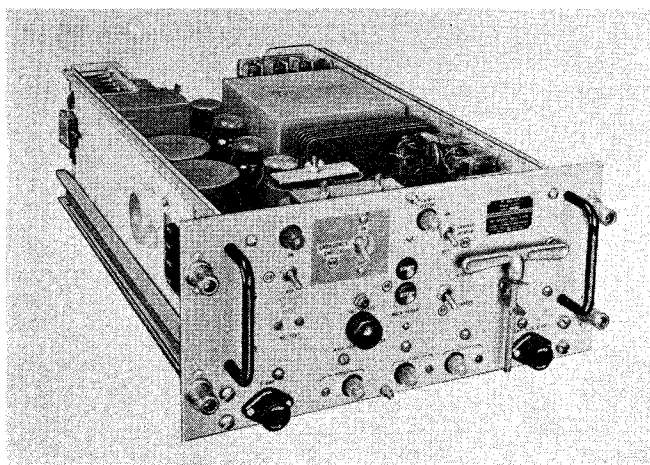

Figure 1-8. Power Supply PP-1094/SRT,
(4) POWER SUPPLY PP-1094/SRT (LOW VOLTAGE POWER SUPPLY, LVPS). (See figure 1-8.)—This unit is commonly called the low voltage power supply (LVPS) to distinguish it from other power supplies.